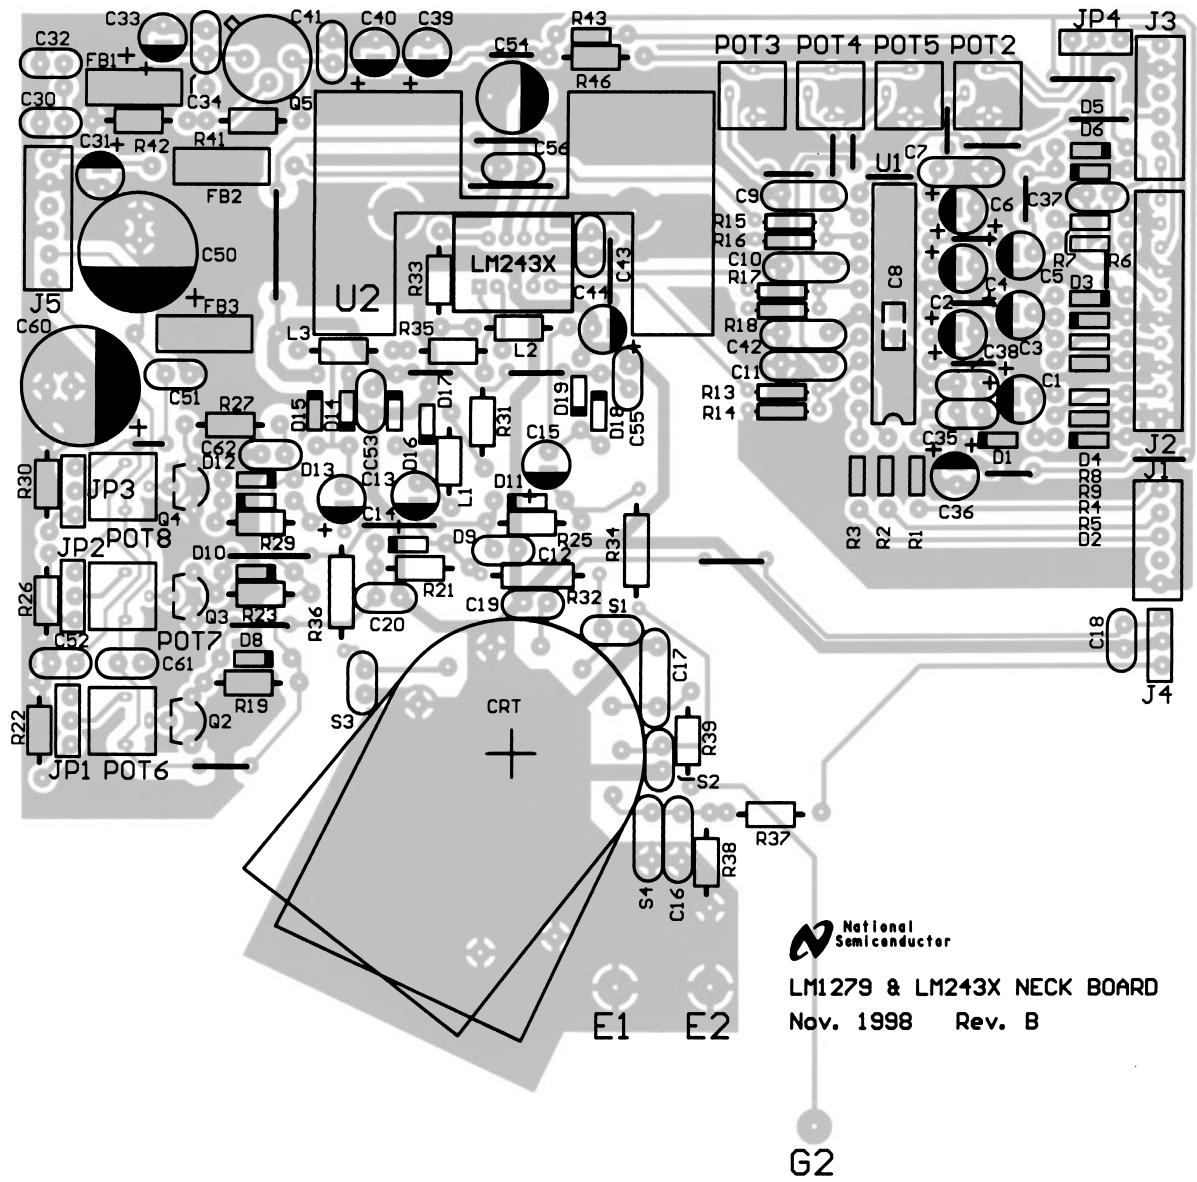

FIGURE 11. LM1279/243X Demo Board Layout
It is very important that the tab of the heatsink is connected to PCB ground. The single ground pin does not provide an adequate return path at high frequencies. The ground connection can be made using the heatsink. The NSC LM1279 & LM243X (Nov. 1998, Rev. B) demo board, shown in *Figure 11* and *Figure 12*, provides a good example of how this can be done. A Thermalloy 6698B heatsink is used in the demo
*Figure 11* shows routing and component placement on the NSC LM1279/243X demonstration board. The schematic of the board is shown in *Figure 10*. This board provides a good example of a layout that can be used as a guide for future layouts. Note the location of the following components: